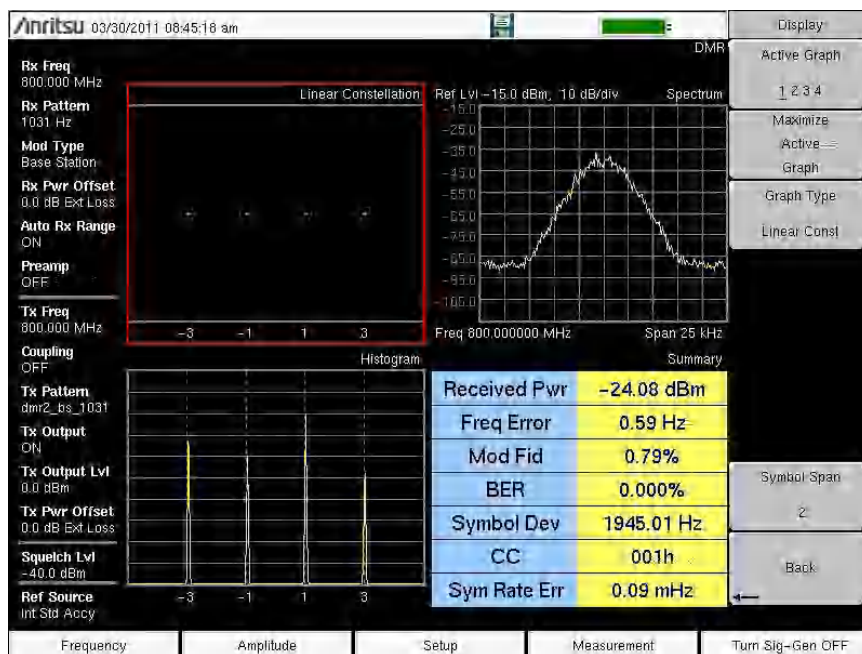

Figure 3-11. Analyzer Measurements (Active Graph has the Red Outline)
1. Press the **Measurement** main menu key, then press the NBFM Analyzer submenu key. Press Graph Type to set the displayed graph types (Figure 3-11).
1. Press the **Measurement** main menu key, then press the P25 Analyzer, P25p2 Analyzer, NXDN Analyzer, dPMR Analyzer, DMR Analyzer, PTC-ITCR Analyzer, PTC-ACSES Analyzer, or the TETRA Analyzer submenu key. Press Graph Type to set the displayed graph types (Figure 3-11).